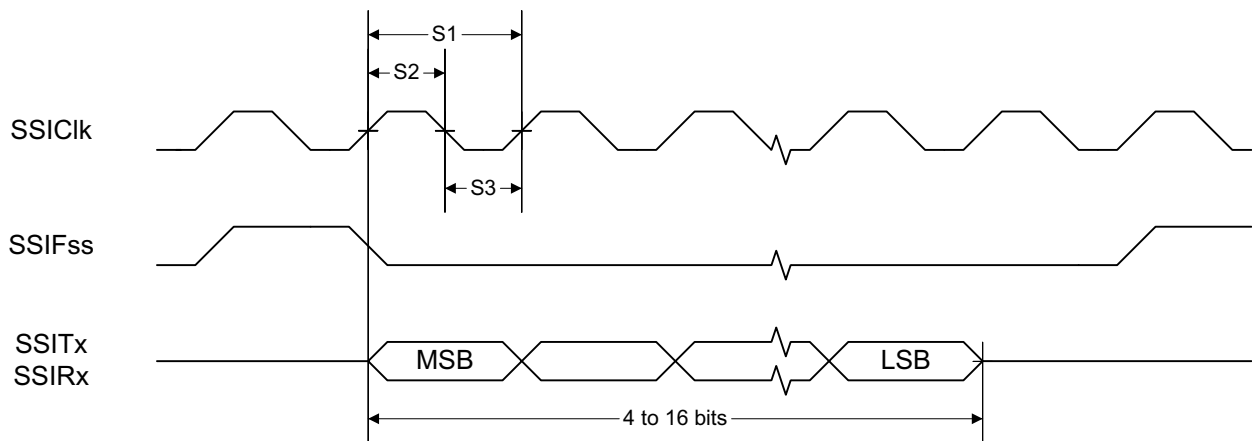

Figure 8-1. SSI Timing for TI Frame Format (FRF = 01), Single Transfer Timing Measurement
- (1) Refer to SSI timing diagrams Figure 8-1, Figure 8-2, and Figure 8-3
- (2) When using the TI-provided Power driver, the SSI system clock is always 48 MHz.